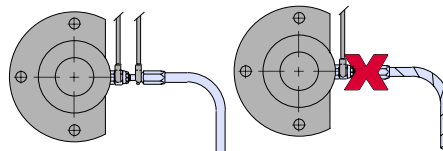

Fig. 5
- When connecting hose adapters to port adapters, tighten by hand first. Then tighten using two wrenches, one on the hose adapter and one on the port adapter, to prevent twisting of the hose, see Fig. 5.